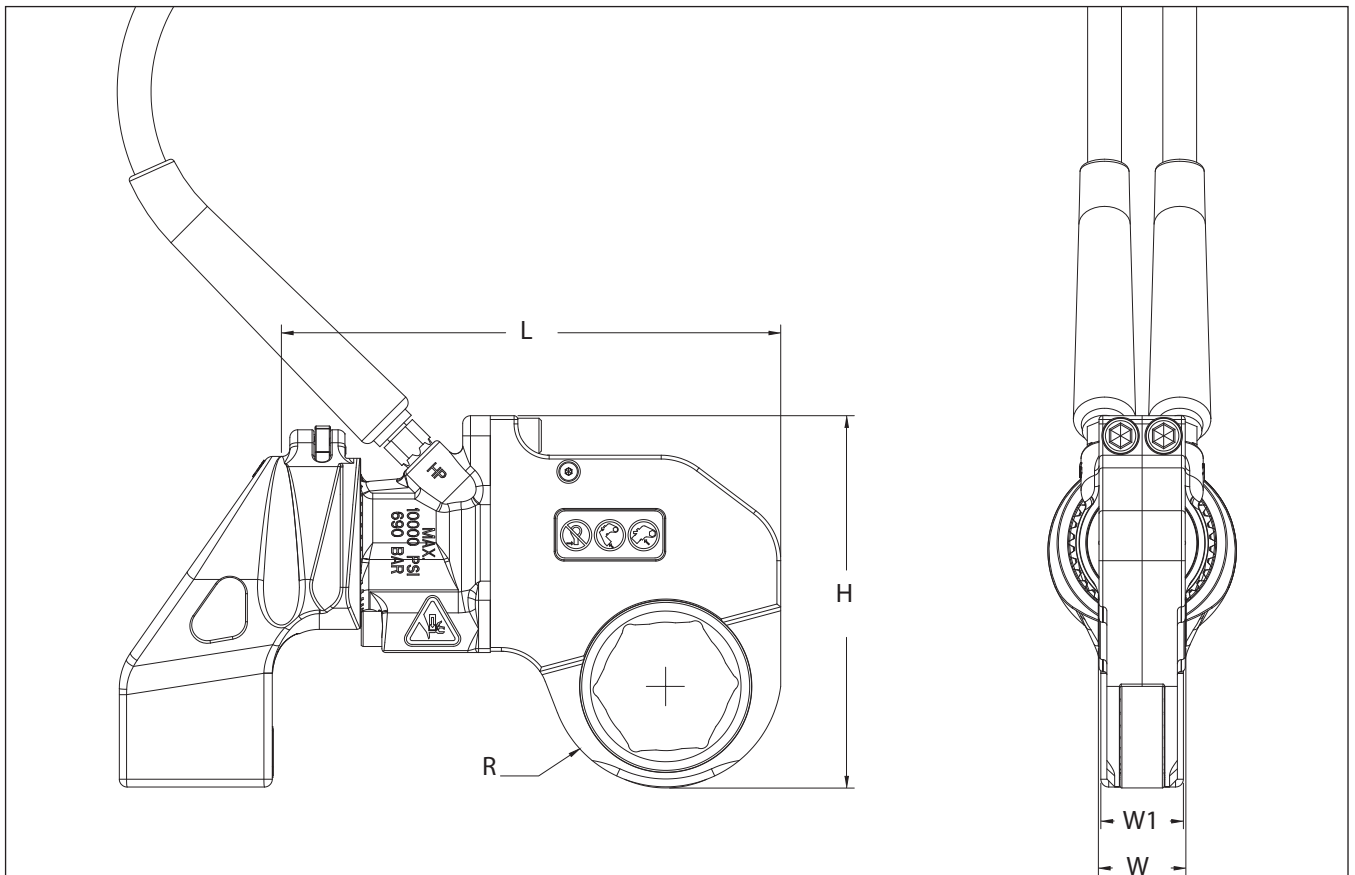

Fig. 7.3-1
7.4.1 Imperial System Table - RSL BOP Hexagon Cassette (see Fig. 7.3-1 for locations of dimensions AF, R, L, H, W and W1)
7.4.2 Metric System Table - RSL BOP Hexagon Cassette (see Fig. 7.3-1 for locations of dimensions AF, R, L, H, W and W1)